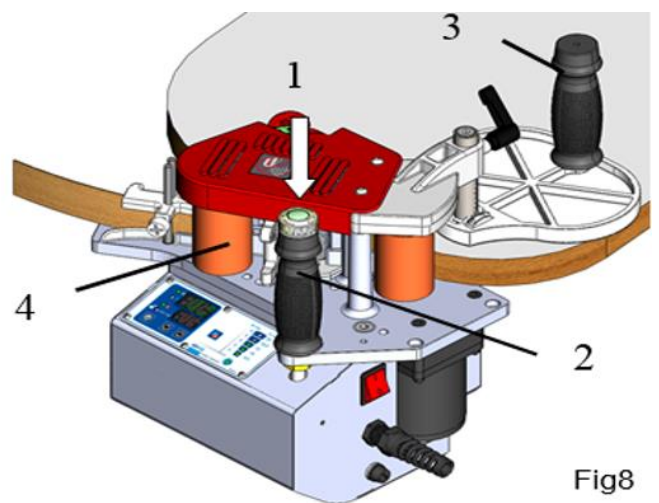

Fig8
Before edge banding operation, make sure the glue is completely melted into liquid (Using the tool and glove while opening the glue pot to check). Place the guide plate onto the work piece and place the pressure roll close to the work piece without touching it. Hold the machine tightly by both hands while handling (2) and (3). Press switch (1), and the feed starts. Place the edge into feeding entrance until the tape touches roller (4). The tape will be transported automatically. Till the tape has reached the pressure roll then press the nip roll against the work piece. The movement of the pressure roll automatically moves the machine ahead. At the end of the band make sure that the machine is led further uniformly in height and direction until the protruding band is led out of the nip roll.(Fig.8)